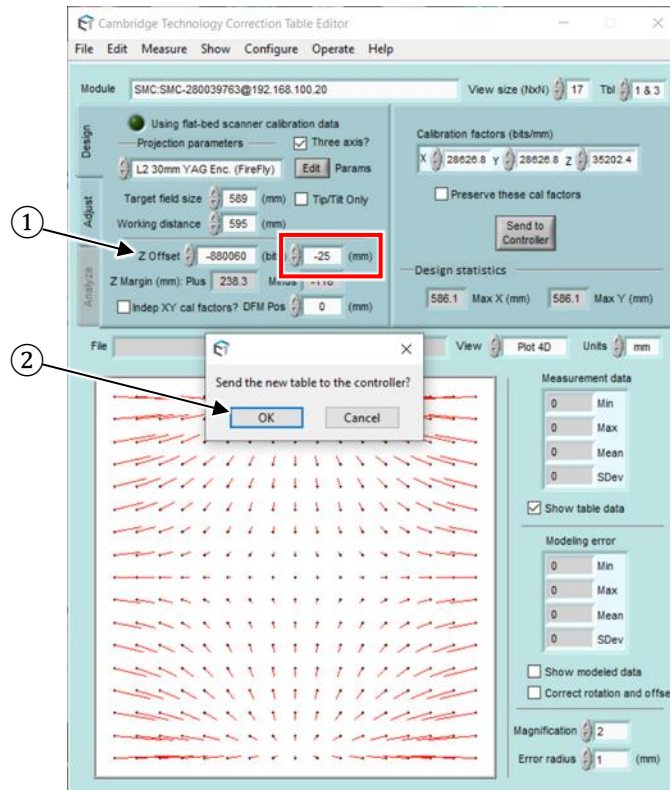

Figure 25: Adjusting the Z Offset
If required, the focus can be adjusted by clicking **Adjust focal plane** and then entering a *Z Offset* value into the *Correction Table* as shown in Figure 25 on page 69.
- a. *Z Offset* correction is the field that is marked by a red box in Figure 25 on page 69. Enter the offset value in millimeters there.